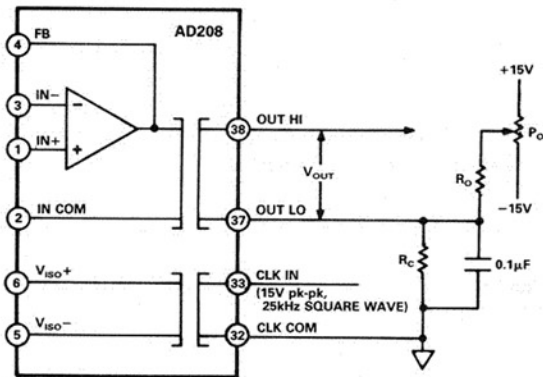

Figure 36. Output Side Offset Adjustment Circuit
**Offset Adjustment.** Figure 36 shows the recommended technique for offset adjustment at the output. In this circuit, a  $\pm 15$  V dc voltage is supplied by an independent source. With reference to the output circuitry shown in Figure 36, the maximum offset adjustment range is given by: